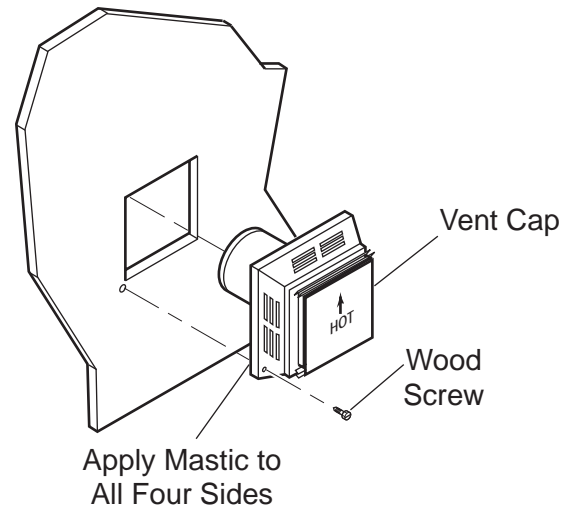

Figure 17 - Installing Horizontal Termination
4. Apply a bead of non-hardening mastic around the outside edge of vent cap. Position the vent cap in the center of hole on the exterior wall with the word "UP" on the vent cap facing up. Insure proper clearance of 1" to combustibles is maintained to the flue. Attach the vent cap with four wood screws supplied. See Figure 17.